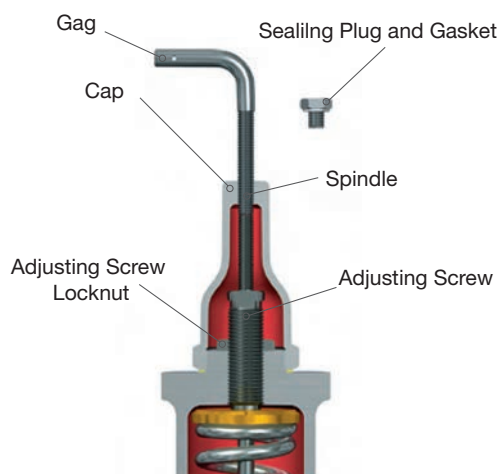

Figure 41: Hydrostatic Testing
When hydrostatic tests are required after installation of an SRV, remove the SRV and replace it with a blind flange. If the hydrostatic test pressure will not be greater than the operating pressure of the equipment, a test gag may be used. Very little force, i.e., hand-tight pressure, on the test gag is sufficient to hold hydrostatic pressures. Too much force applied to the gag may bend the spindle (15) and damage the seat. After a hydrostatic test, the gag must be removed and replaced by the sealing plug furnished for this purpose (see Figure 41). (Test gags for Consolidated SRVs can be furnished for all types of caps and lifting gears.)